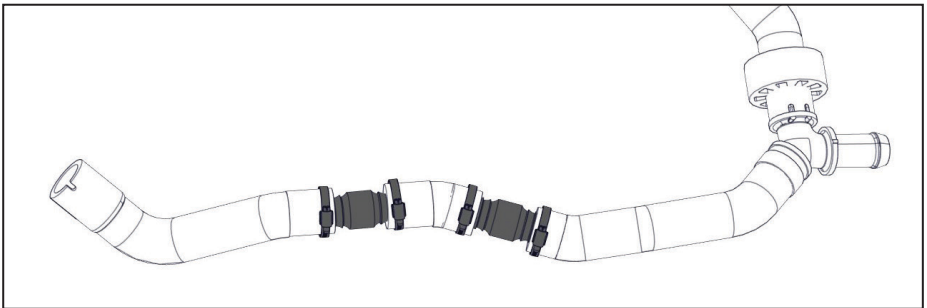

Figure 6 — Modify lower degas hose
- Apply coolant to the barbs and insert the (x2) barbed fittings into the hose sections, leaving approximately 1 1/2 in of the fittings showing (Figure 6).
- Rotate the hose as required to ensure the hose retains the same overall shape, and secure it in place using the supplied gear clamps (Figure 6).